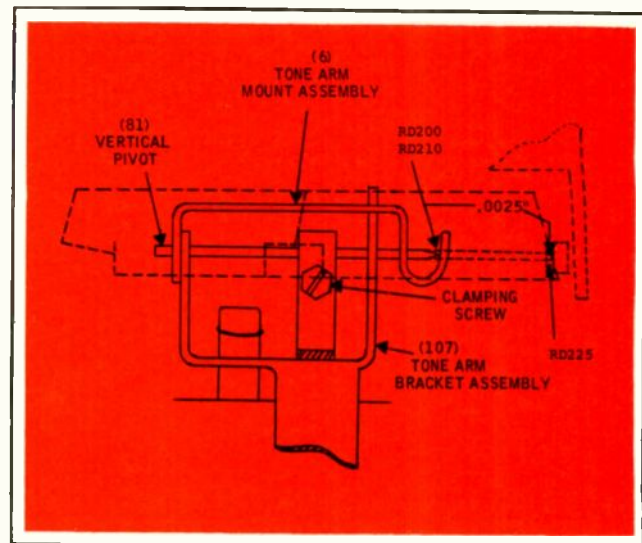

Fig. 5—Details of vertical pivot adjustment. (Dashed lines indicate vertical pivot adjustment for RD225).
The tone arm vertical pivot adjustment is made as follows: As shown in Fig. 5, the pointed end of the vertical pivot (81) must be positioned 0.0025in. from the lip of the tone arm mount assembly (6). This adjustment can be made by loosening the clamping screw on the tone arm bracket assembly (107) allowing the vertical pivot to be adjusted horizontally. While making this adjustment the tone arm mount assembly must be held in firm contact with the tone arm bracket assembly. The adjustment can be accurately performed by using a hard feeler-gage of the type used to adjust automobile ignition points. When the vertical pivot is adjusted to the correct position the clamping screws should be tightened until snug. Do not over-tighten the clamping screws.